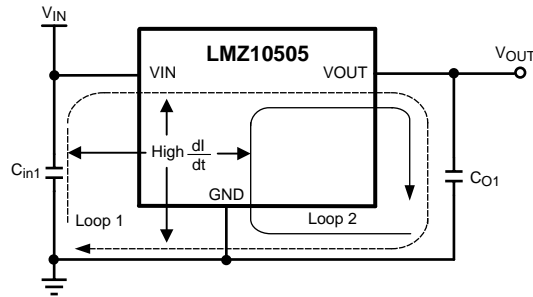

Figure 29. Critical Current Loops to Minimize
From an EMI reduction standpoint, it is imperative to minimize the high di/dt current paths. The high current that does not overlap contains high di/dt, see Figure 29. Therefore physically place input capacitor (C_{in1}) as close as possible to the LMZ10505 VIN pin and GND exposed pad to avoid observable high frequency noise on the output pin. This will minimize the high di/dt area and reduce radiated EMI. Additionally, grounding for both the input and output capacitor should consist of a localized top side plane that connects to the GND exposed pad (EP).